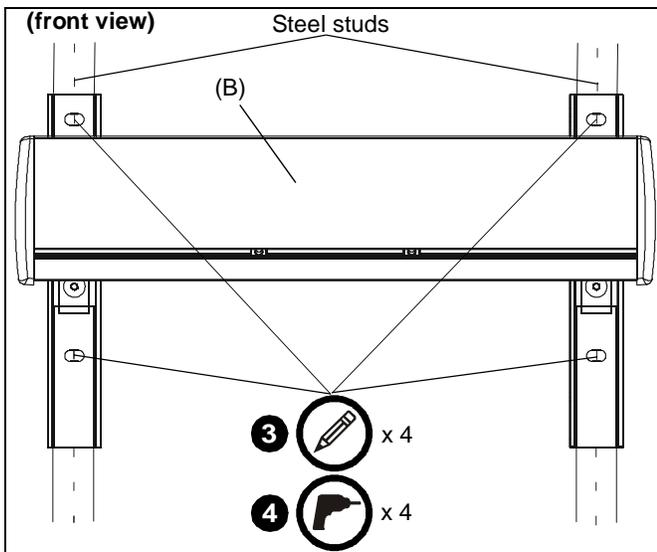

Figure 5
2. Line up four holes on mounting bracket with center of studs at desired mounting location. (See Figure 5)
3. Using mounting bracket as a template, mark four holes at the inner four holes in bracket. (See Figure 5)
4. Drill four 1/2" holes at marked locations in wall. (See Figure 5)